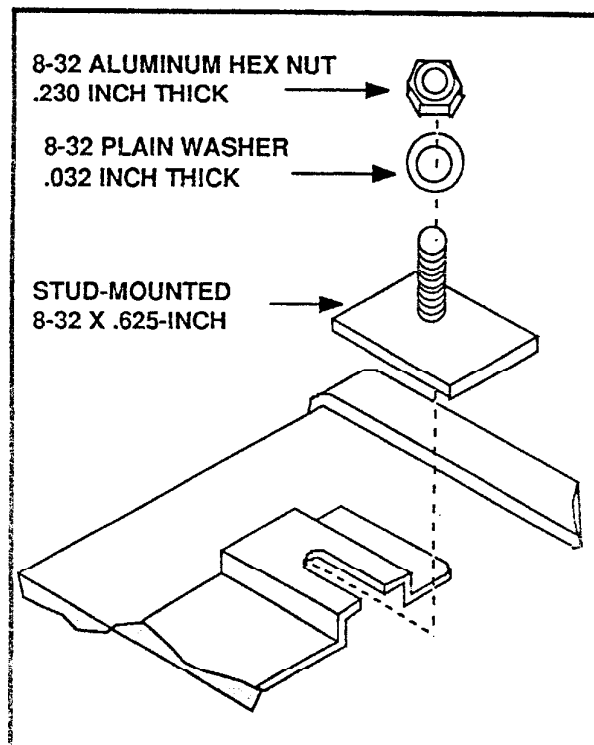

Figure 7-1. Installing a stud into a mounting strip.
2. Slide the four (4) studs, from the mounting kit, into the slots on the mounting strip and bolt them in place using the washers and the thick 8-32 nuts. See Figure 7-1. Tighten the four nuts finger tight so the studs will still move in the slot.
3. Now place the adapter plate assembly, with the slotted feet up, on the mounting studs and install the four (4) plain nuts to hold the plate assembly on the studs.